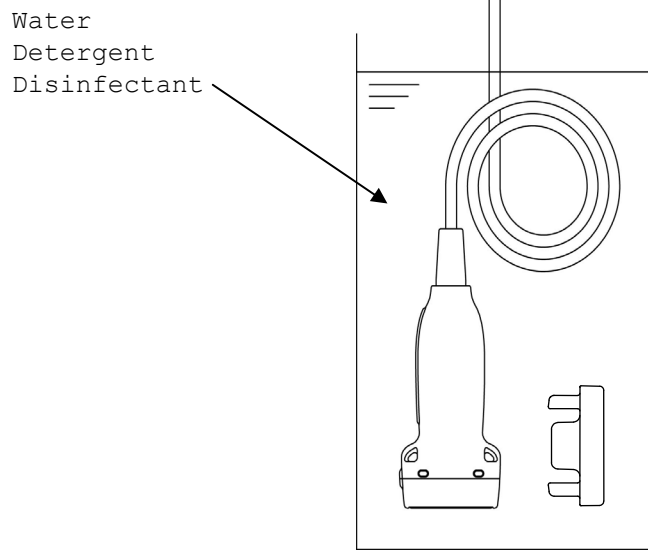

Fig. 5 Immersion of the probe and the elasto coupler
- 2) Immerse the immersible part of the probe without connector into the diluted detergent solution (see Fig. 5). Wipe the immersible part of the probe under the surface of the detergent solution with a soft cloth to remove all visible soil. Be sure that all grooves of the probe are implemented during the cleaning process.
- 5) Rinse the probe with running tap water for 1 minute. (alternatively: immerse the immersible part of the probe in a tray filled with deionized water/tap water (see Fig. 5) for 5 min.)
- 4) Rinse the elasto coupler with running tap water for 1 minute. (alternatively: immerse it in a tray filled with deionized water/tap water (see Fig. 5) for 5 min.)
- 3) Immerse the immersible part of the probe into the disinfectant (see Fig. 5). Set a clock to insure the recommended contact time which is 5 minutes.
- 4) Rinse the immersible part of the probe with deionized water for 1 minute. (alternatively: immerse the immersible part of the probe in a tray filled with deionized water (see Fig. 5) for 5 min.)
- 2) Immerse the elasto coupler into the disinfectant (see Fig. 5). Set a clock to insure the recommended contact time which is 5 minutes.
- 3) Rinse the elasto coupler with deionized water for 1 minute. (alternatively: immerse it in a tray filled with deionized water (see Fig. 5) for 5 min.)